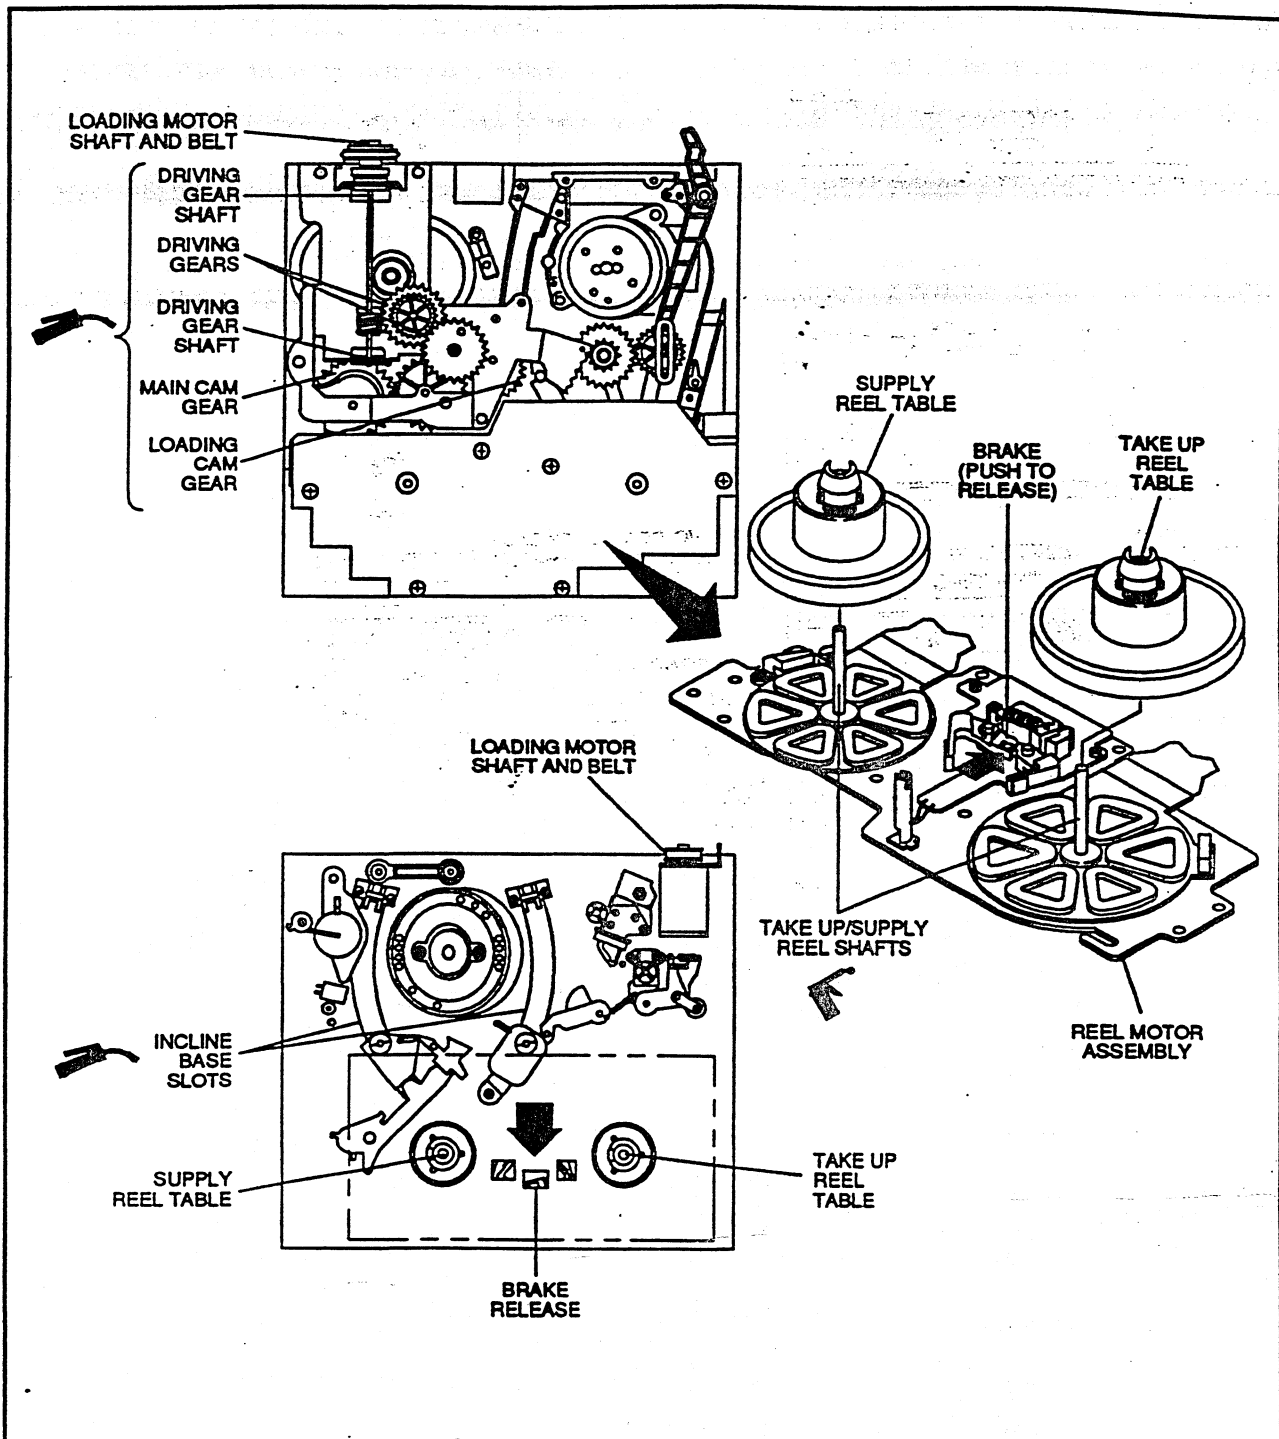

Figure 3. Lubrication Points
16. Using a disposable towel and/or cloth swabs remove old grease from the following points (see Figure 3). Gears can be moved by physically rotating the loading motor shaft at the belt.
22. Apply one or two drops of high quality spindle oil to the supply and takeup reel shafts (see Figure 3).
While installing the Reel Motor Assembly it is necessary to release (open) the brakes using a small screwdriver (see Figure 3).